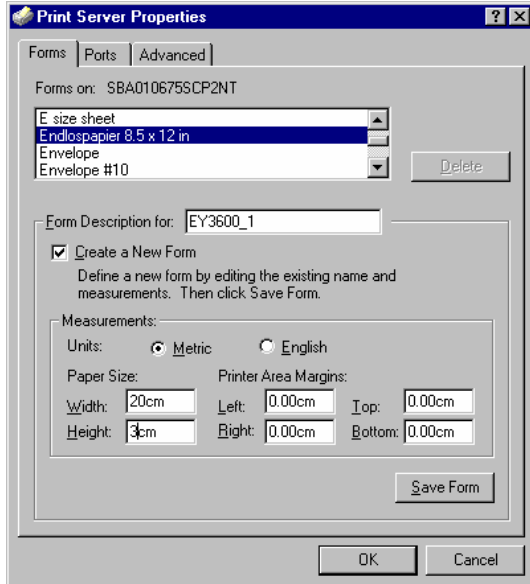
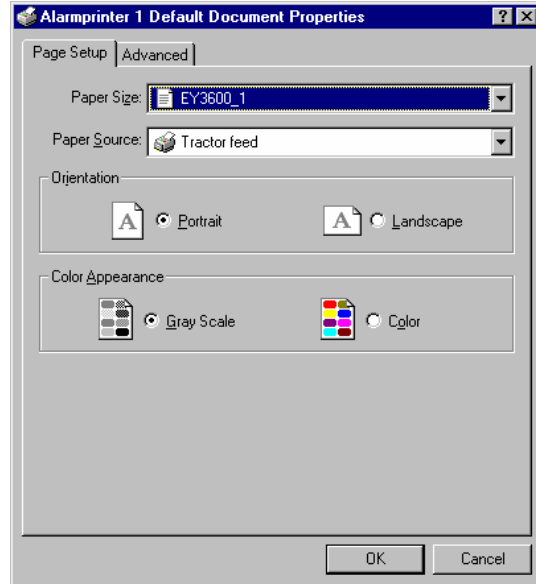

Fig. 7-5:
Fig. 7-6: Paper source in Windows NT/2000 or XP
- For each printer used, add a new form as shown in the example in Fig. 7-5. The paper source must be adjusted as shown in Fig. 7-6.